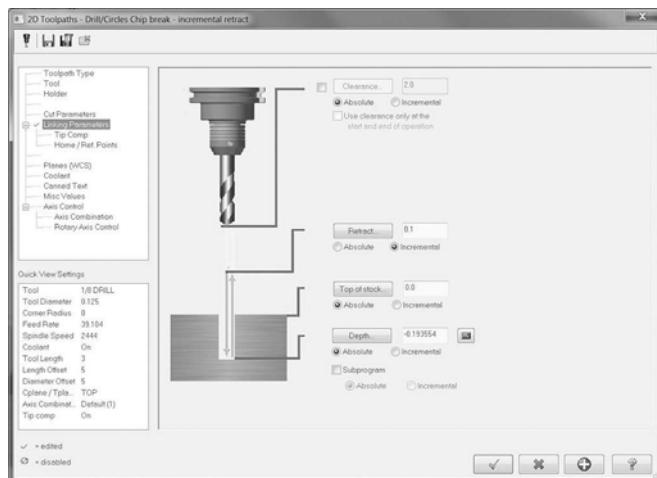
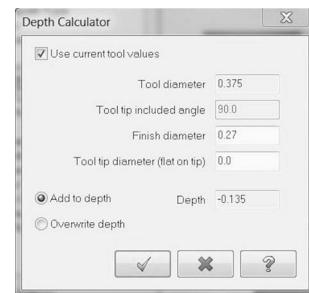

Figure 5-51 Drill Linking Parameters
Figure 5-52 Drill Depth Calculator Dialog
- For Linking Parameters, set per Figure 5-51, and set the Depth values per Figure 5-52.